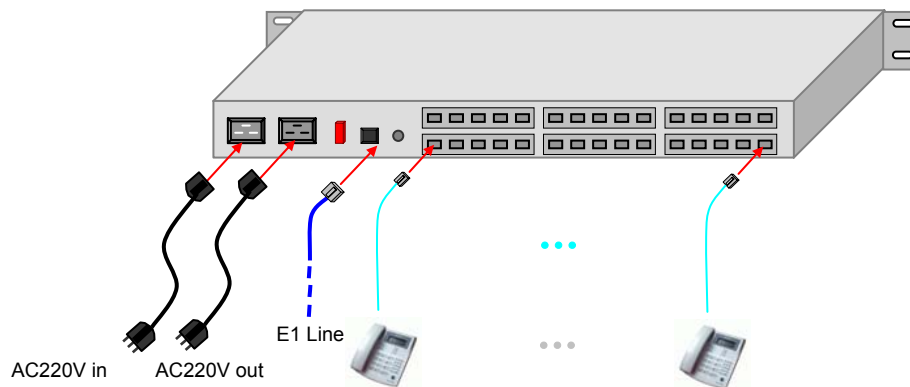
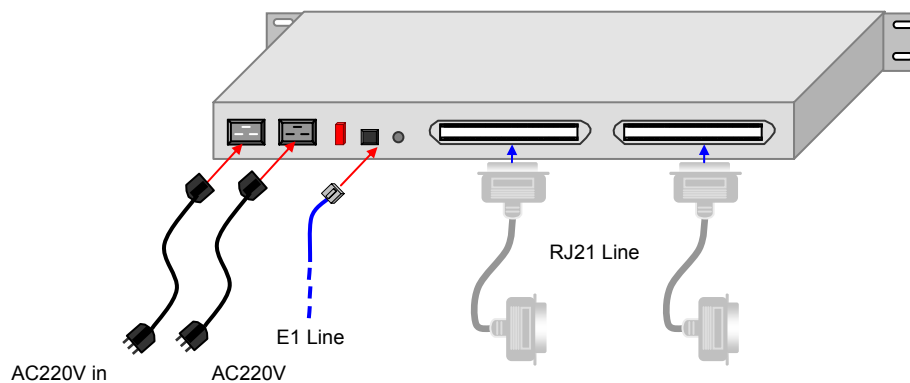

Figure 2-8 SHT-30A/Chbank Connection Model
Figure 2-9 SHT-30B/Chbank Connection Model
- ② Regarding the connection of analog phone lines, please refer to Figure 2-8 SHT-30A/Chbank Connection Model.
- ③ Regarding the connection of RJ21 cables, please refer to Figure 2-9 SHT-30B/Chbank Connection Model.
- ② Regarding the connection of E1 line, please refer to Figure 2-8 SHT-30A/Chbank Connection Model and Figure 2-9 SHT-30B/Chbank Connection Model.
- ① Regarding the connection of power cord, please refer to Figure 2-8 SHT-30A/Chbank Connection Model and Figure 2-9 SHT-30B/Chbank Connection Model.
- ② For protection of the device and human safety, follow parameters given in 'Appendix A Technical Specifications' when configuring power input.